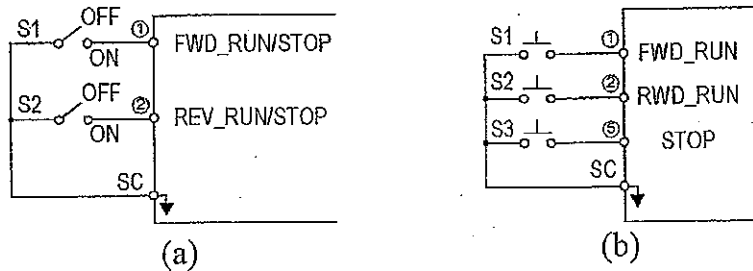

Fig. 39. 2-wire mode connection diagram
- Under a standard 2-wire initialization mode as shown in Fig. 39(a), S1 and S2 can not be both "ON" at the same time. When S1= "ON" and S2= "OFF", the motor is FWD running. When S1="OFF" and S2= "ON", the motor is REV running. When S1= "OFF" and S2= "OFF", the motor stops running.
- When Sn-25= '01', the 2-wire operation mode has its self-sustaining function. Only through the multi-function input terminal⑤, the operator can stop the inverter after pressing the "STOP" key as shown in Fig. 39(b). As shown in Fig. 39(b), the switches S1, S2 and S3 do not need to be the self-sustaining switches. When S1 is depressed "ON", the motor will be forward running. After S3 is depressed "ON", the motor will stop. When S2 is depressed "ON", the motor will be reverse running. After S3 is depressed "ON", the motor will stop.